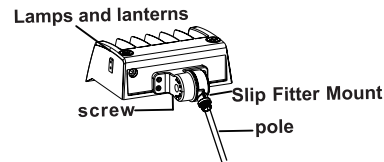

figure 3.4
Step 3: Loosen screws; Adjust fixture angles as per actual demands and tighten screws later;Angles of the fixture is adjustable (pass the bracket through mounting surface, fix it with screws, then connect the wires as per proper wiring requirements.)(figure 3.4)